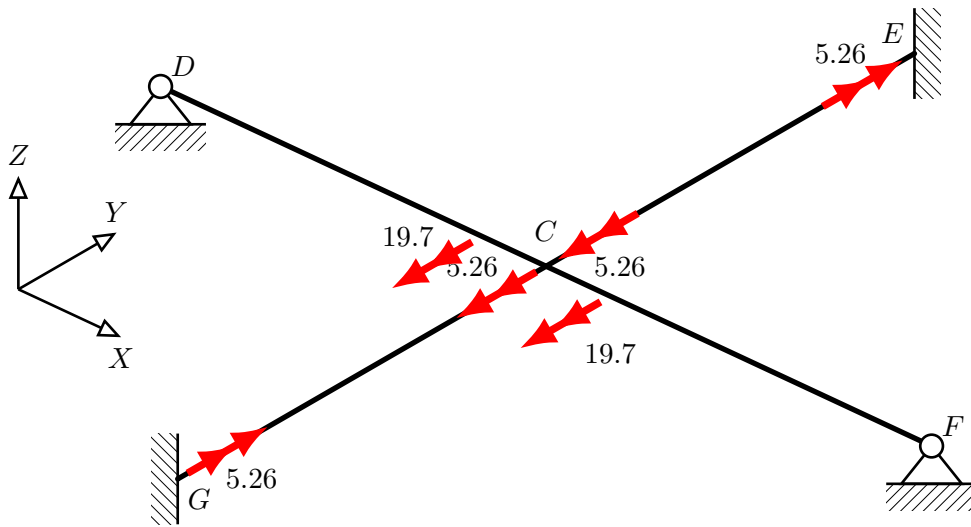
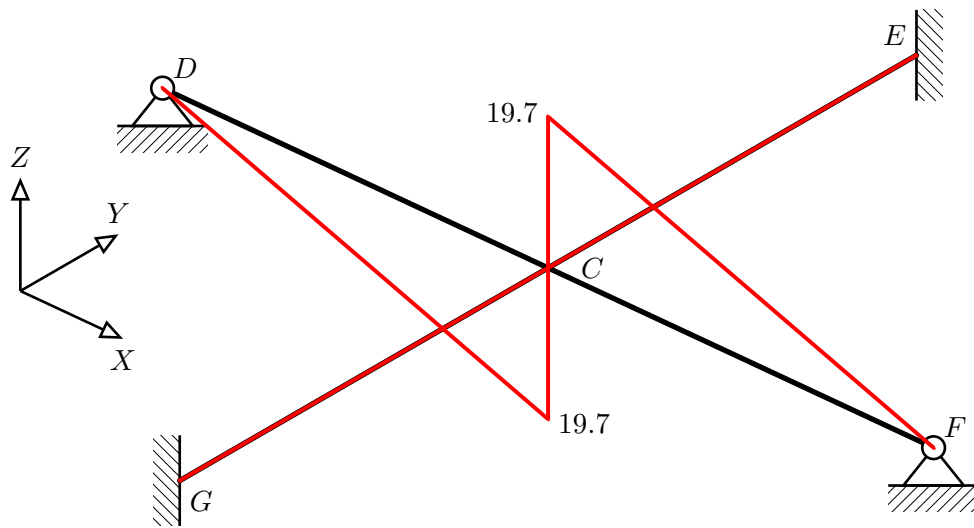
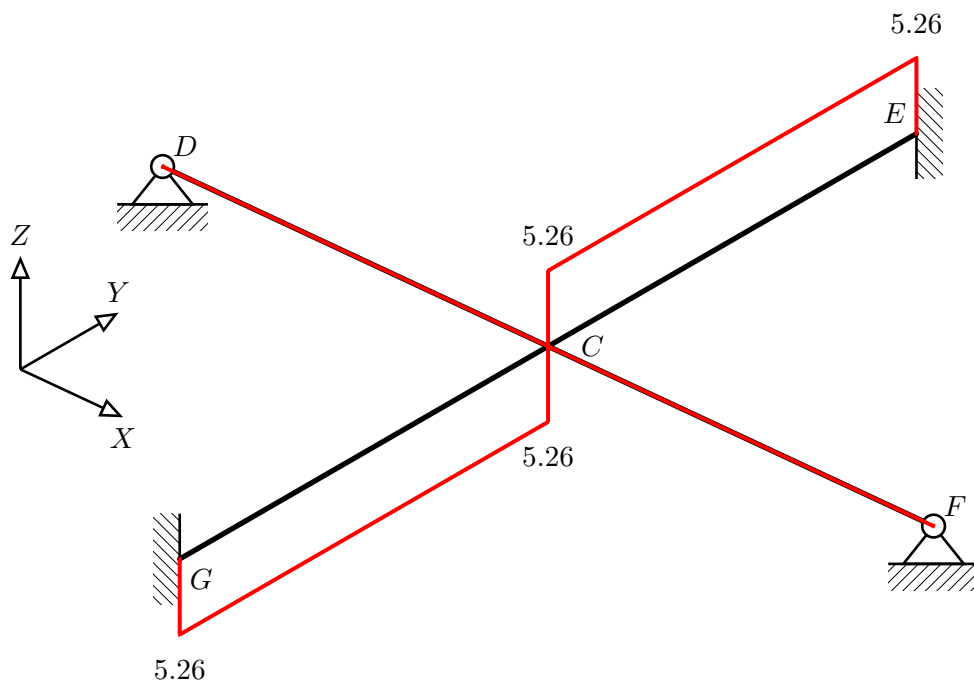

Figure 1: Free body diagram.
Figure 2: Bending Moment Diagram.
Figure 3: Torsion Moment Diagram.
Step 10 is to draw the internal actions diagrams. To do this, the results of the member actions which were derived in the local member coordinate system must now be considered now in the global coordinate system. The easiest way to do this is to draw the directions by carefully interpreting the member force signs against the global axis system. The resulting FBD is shown in Figure 1.
Considering the BMD, for each member, to identify the side in tension it can help to visualise the deformation resulting from the forces acting on it indicated in the free body diagram, Figure 1. Since there are no loads acting between the nodes, the BMD is comprised of straight lines between the values at each node. The BMD is shown in Figure 2.
For the TMD, it is not necessary to adopt a strict drawing convention once the relative actions are indicated. For example, the double-headed arrow in Figure 1 indicating the torsion of member CE could be thought of as an analogous “tension” which we may consider as positive, and so we draw the TMD above the line. Similarly, for member CG , the double-headed arrows act in the opposite sense to the analogous “tension” and so are analogous to “compression”, which we then draw on the bottom of the member, as shown in Figure 3.